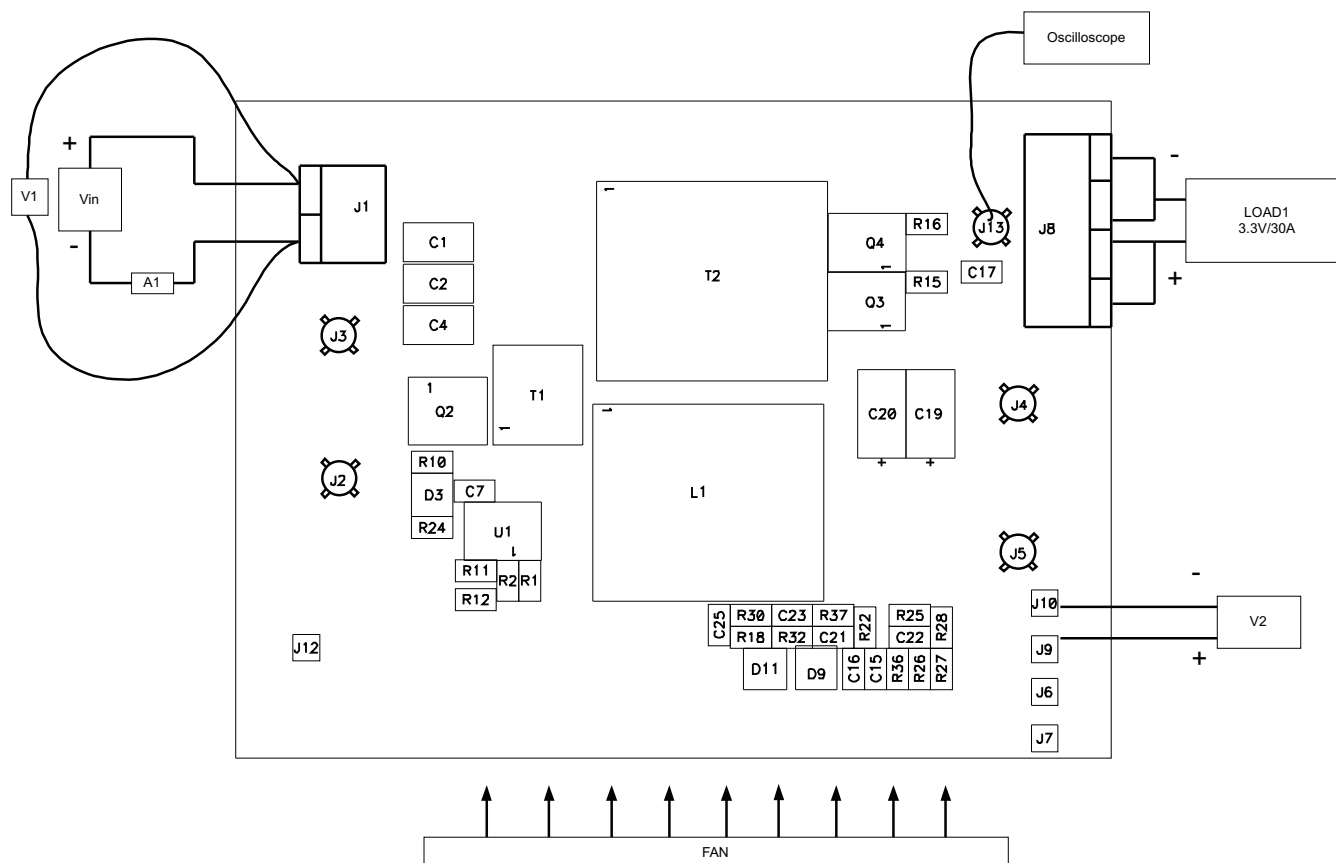

Figure 2. Recommended EVM Test Configuration
Figure 2 shows the basic test setup recommended to evaluate the UCC2891EVM-520.
The input voltage is a variable DC source capable of supplying between $0V_{DC}$ and $72V_{DC}$ at no less than $3.5A_{DC}$, and connected to J1 and A1 as shown in Figure 2. For fault protection to the EVM, limiting the source current to no more than $4A_{DC}$ for a 36 V input is a good common practice. A dc ammeter, A1 is also inserted between VIN and J1 as shown in Figure 2.
An oscilloscope probe is connected using scope jack J13 to measure output ripple as shown in Figure 2. Set the scope to be AC coupled, 50 mV/div. amplitude resolution, 2- μ s/div. time resolution and 20-MHz bandwidth limited.
2. Limiting the source current from VIN to 3.5-A maximum prior to connecting the DC-input source, VIN, is advisable. Make sure VIN is initially set to 0 V and connected to J1 as shown in Figure 2.
3. Connect the ammeter A1 (0A to 10A range) between VIN and J1 as shown in Figure 2.
4. Connect voltmeter (can optionally use voltmeter from VIN source if available), V1 across VIN as shown in Figure 2.
5. Connect LOAD1 to J8 as shown in Figure 2. Set LOAD1 to constant-current mode to sink 0 A_{DC} before VIN is applied.
6. Connect voltmeter, V2 across J9 and J10 as shown in Figure 2.
7. Connect an Oscilloscope to J13 as shown in Figure 2.